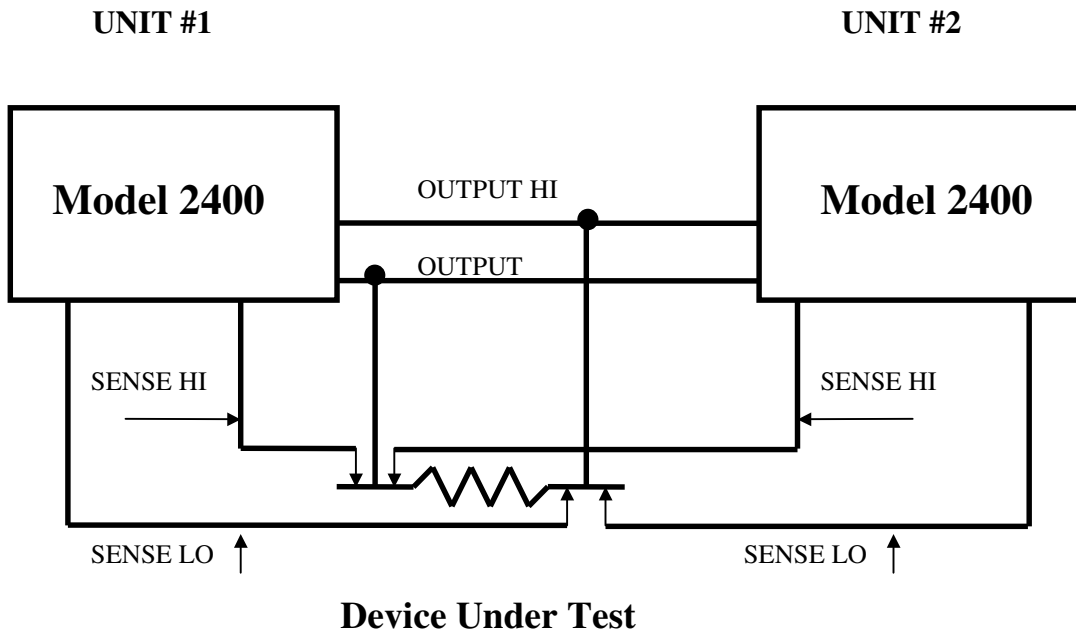

Figure 1. Connecting two Model 2400s in parallel
Each Model 2400 SourceMeter can source up to one ampere of current and read the developed voltage. In applications that require more than one ampere the following method can be used to source up to two amperes. To accomplish this, the SOURCE OUTPUTS of two Model 2400 SourceMeter instruments are connected in parallel as shown in Figure 1.
1. Configure the circuit as shown in Figure 1.
3. Set the compliance voltage on each SourceMeter to the maximum compliance expected in the circuit. In the case of Figure 1 this would be two volts. ( $1 \text{ ohm} \times 2\text{A} = 2\text{V max}$ )